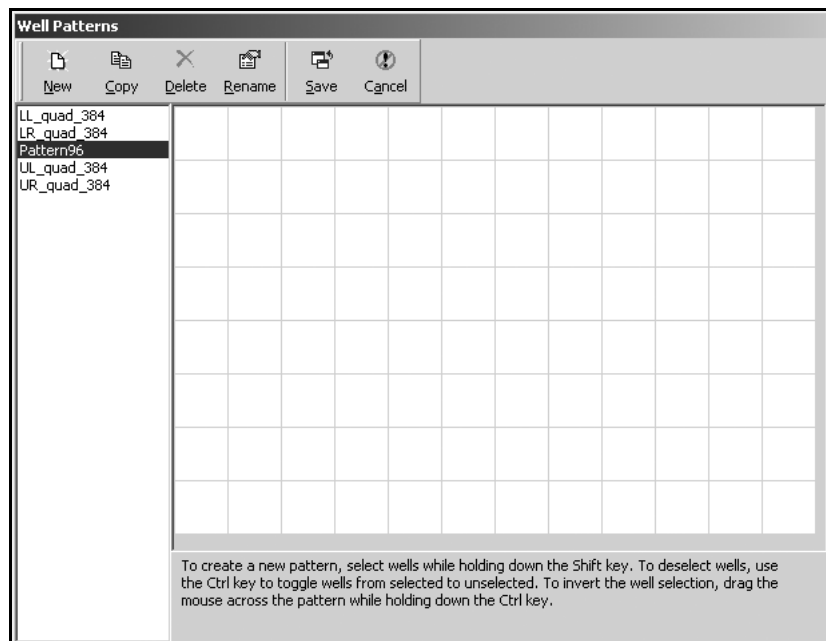

Figure 3-8. Well Patterns based on Pattern 96
3. Highlight **NewLabwareQuickStart** and choose **OK**. Figure 3-8 appears.